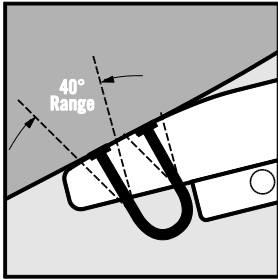

fig. 2
4. The SNAPPER jaws must be aligned with the bow eye in a plane parallel to and equal in height to the waterline (see Fig. 4 on page 3) before Launching and perpendicular within 20° to the boat bow eye. (Fig. 2) Re-secure the roller/V block support.